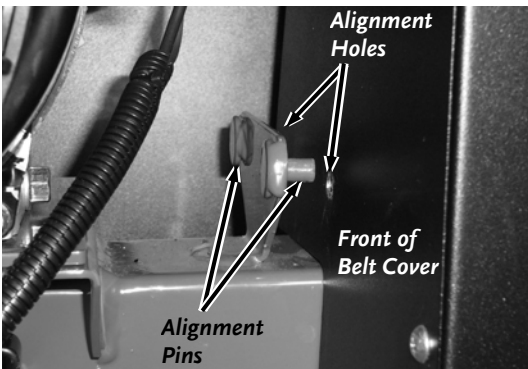

Figure 30
3. Move the Belt Guard forward and lift it off the alignment pins to remove it from the machine (**Figure 30**).